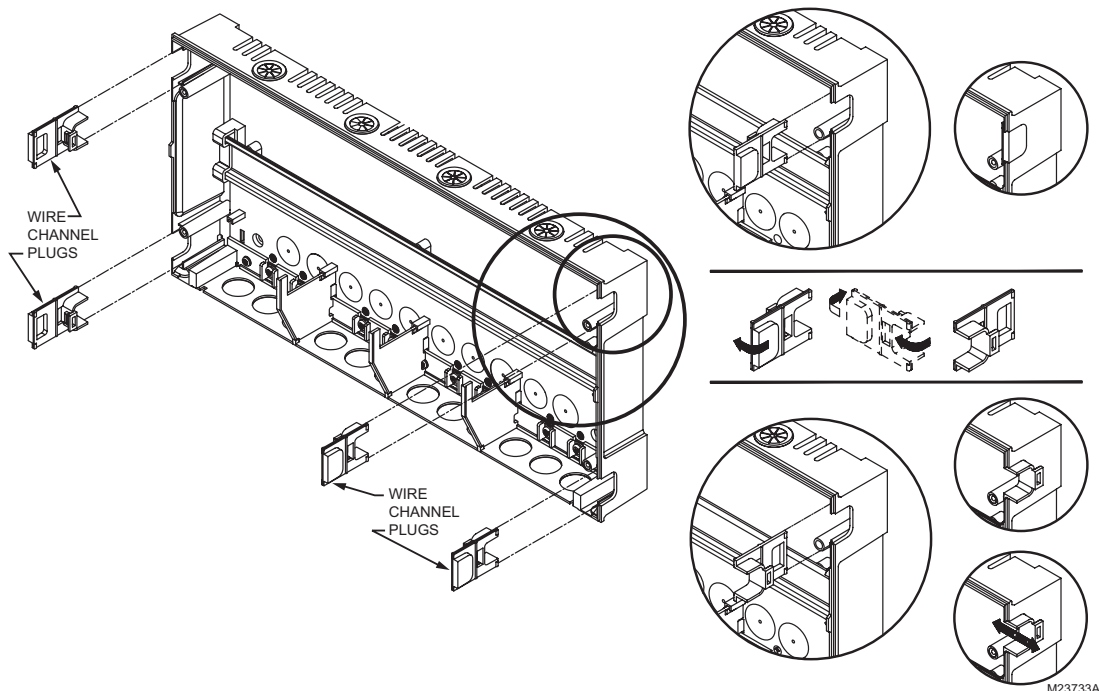

Fig. 3. Orientation of wire channel plugs for creating pass-through wire channel and for joining Control Panel to Expansion Zoning Panels.
1. Remove wire channel plugs from the AQ25A Control Panel and any Expansion Panels (see Fig. 3).
3. Reverse wire channel plugs and re-insert them into their slot to from a wiring channel between the Control Panel and the Expansion Zoning Panel (see Fig. 3) and to connect the two panels together.